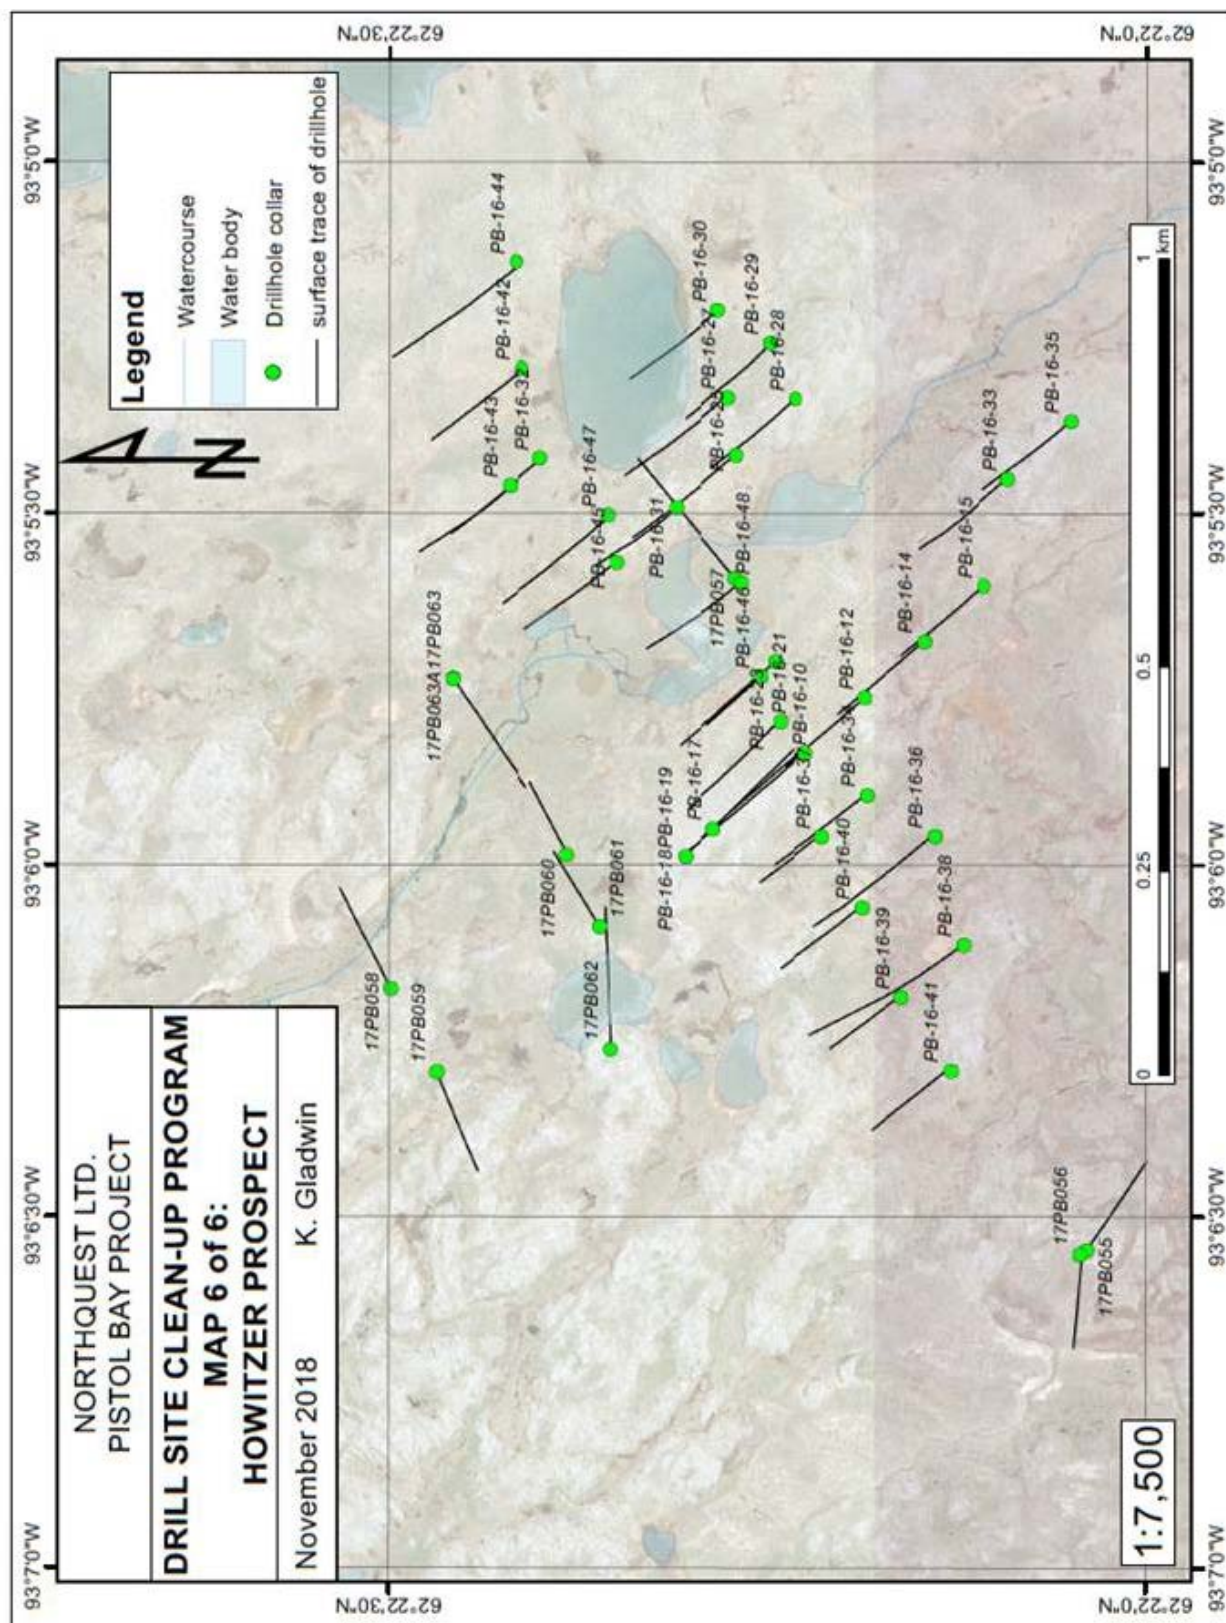

Figure 13. Map illustrating the Howitzer Prospect drill sites.
- Figure 13. Map illustrating the Howitzer Prospect drill sites.
| • Howitzer | Drill holes illustrated on Figure 13 |